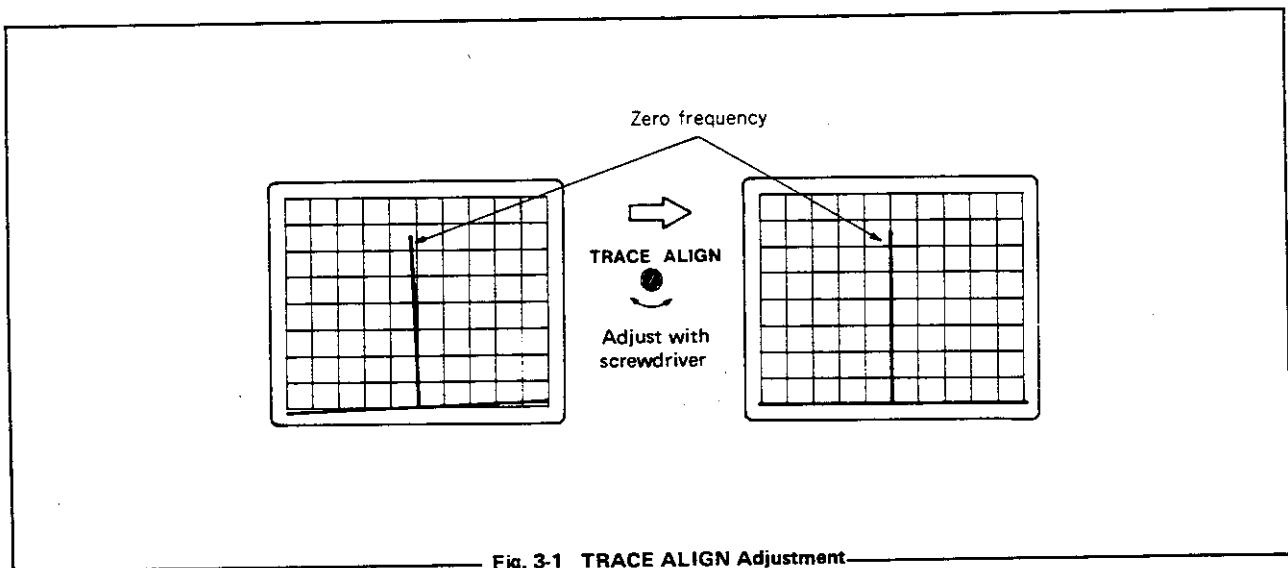

Fig. 3-1 TRACE ALIGN Adjustment
- (6) Turn **FOCUS** until a sharp trace is obtained. A sharp focus may be difficult if the trace is too bright. In this case, adjust the **INTENSITY** as required.
- (7) If the trace is tilted relative to the vertical graticule line of the CRT, adjust **TRACE ALIGN** with a screwdriver to bring it correctly along the graticule. [Fig. 3-1]
- (8) Using the N-BNC conversion adapter (JUG-201A/U or TR1613) with the BNC-BNC cable (MI-02), connect **CAL. OUT.** on the front panel to **INPUT** connector. For TR4132N, use MO-15